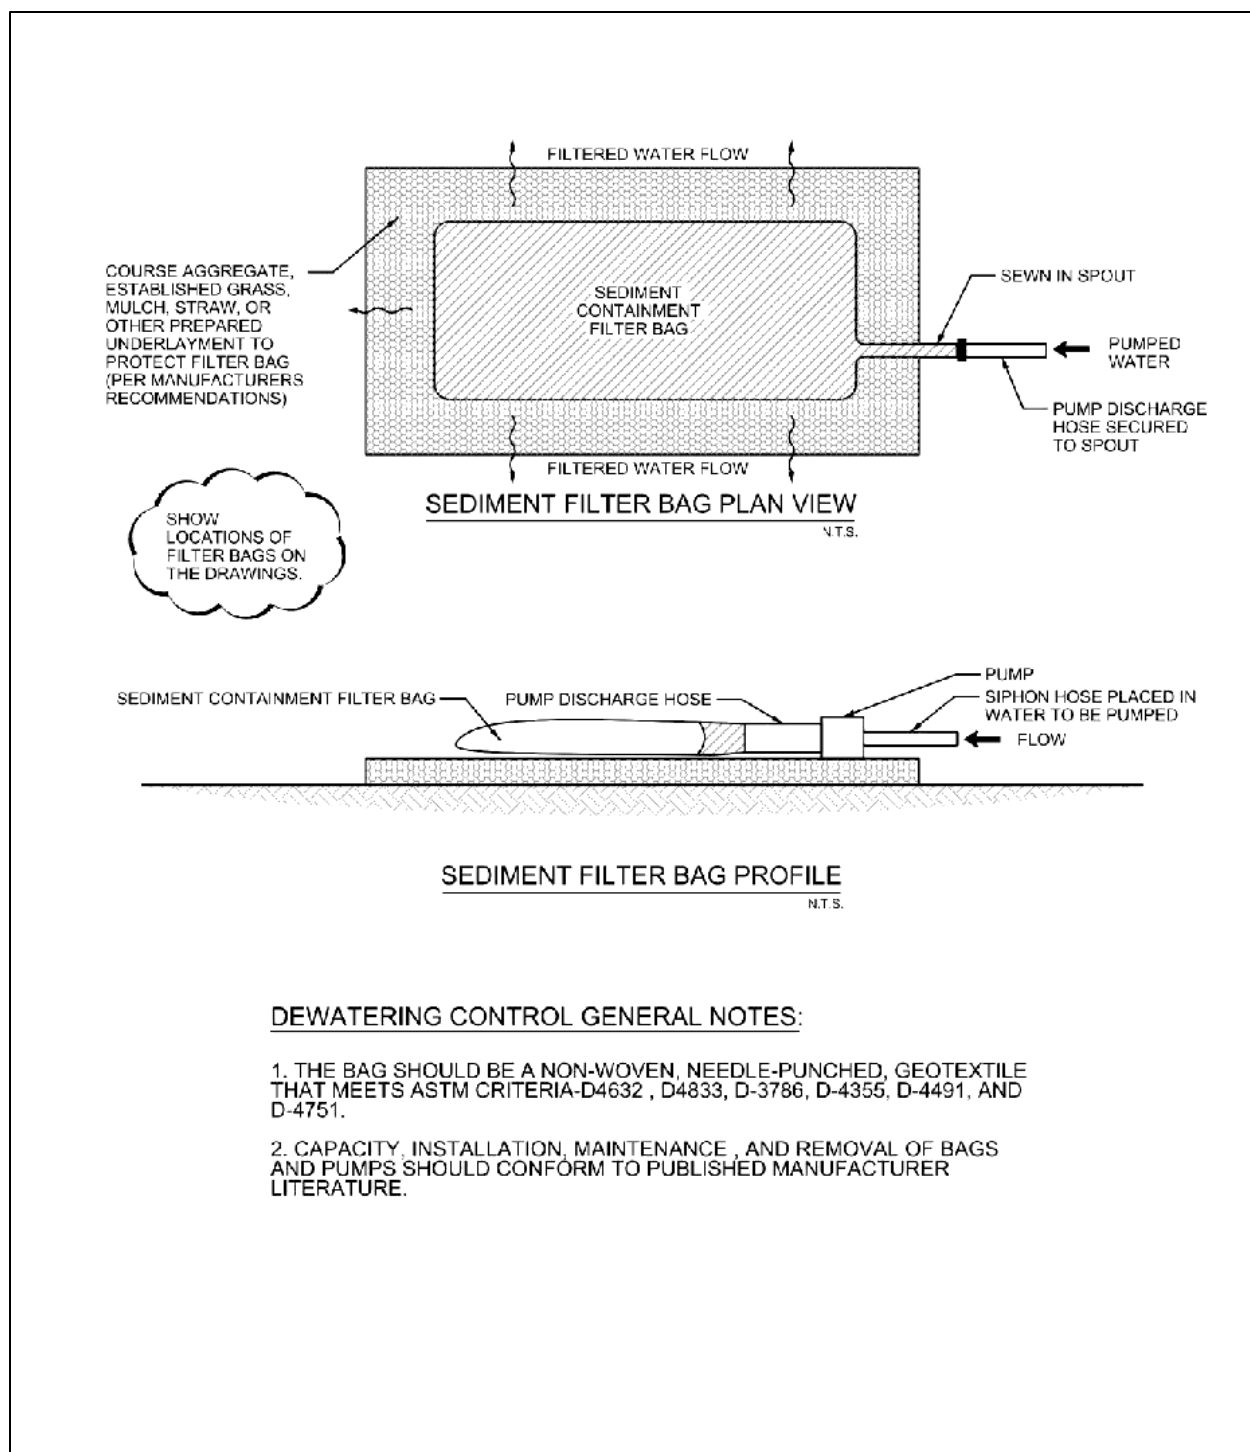

Figure 26: Schematic diagram for sediment filter bag installation
- Where feasible, employ gravity bag filters (dewatering bags) on a slight slope to facilitate water flow and sediment removal (See figure 26).